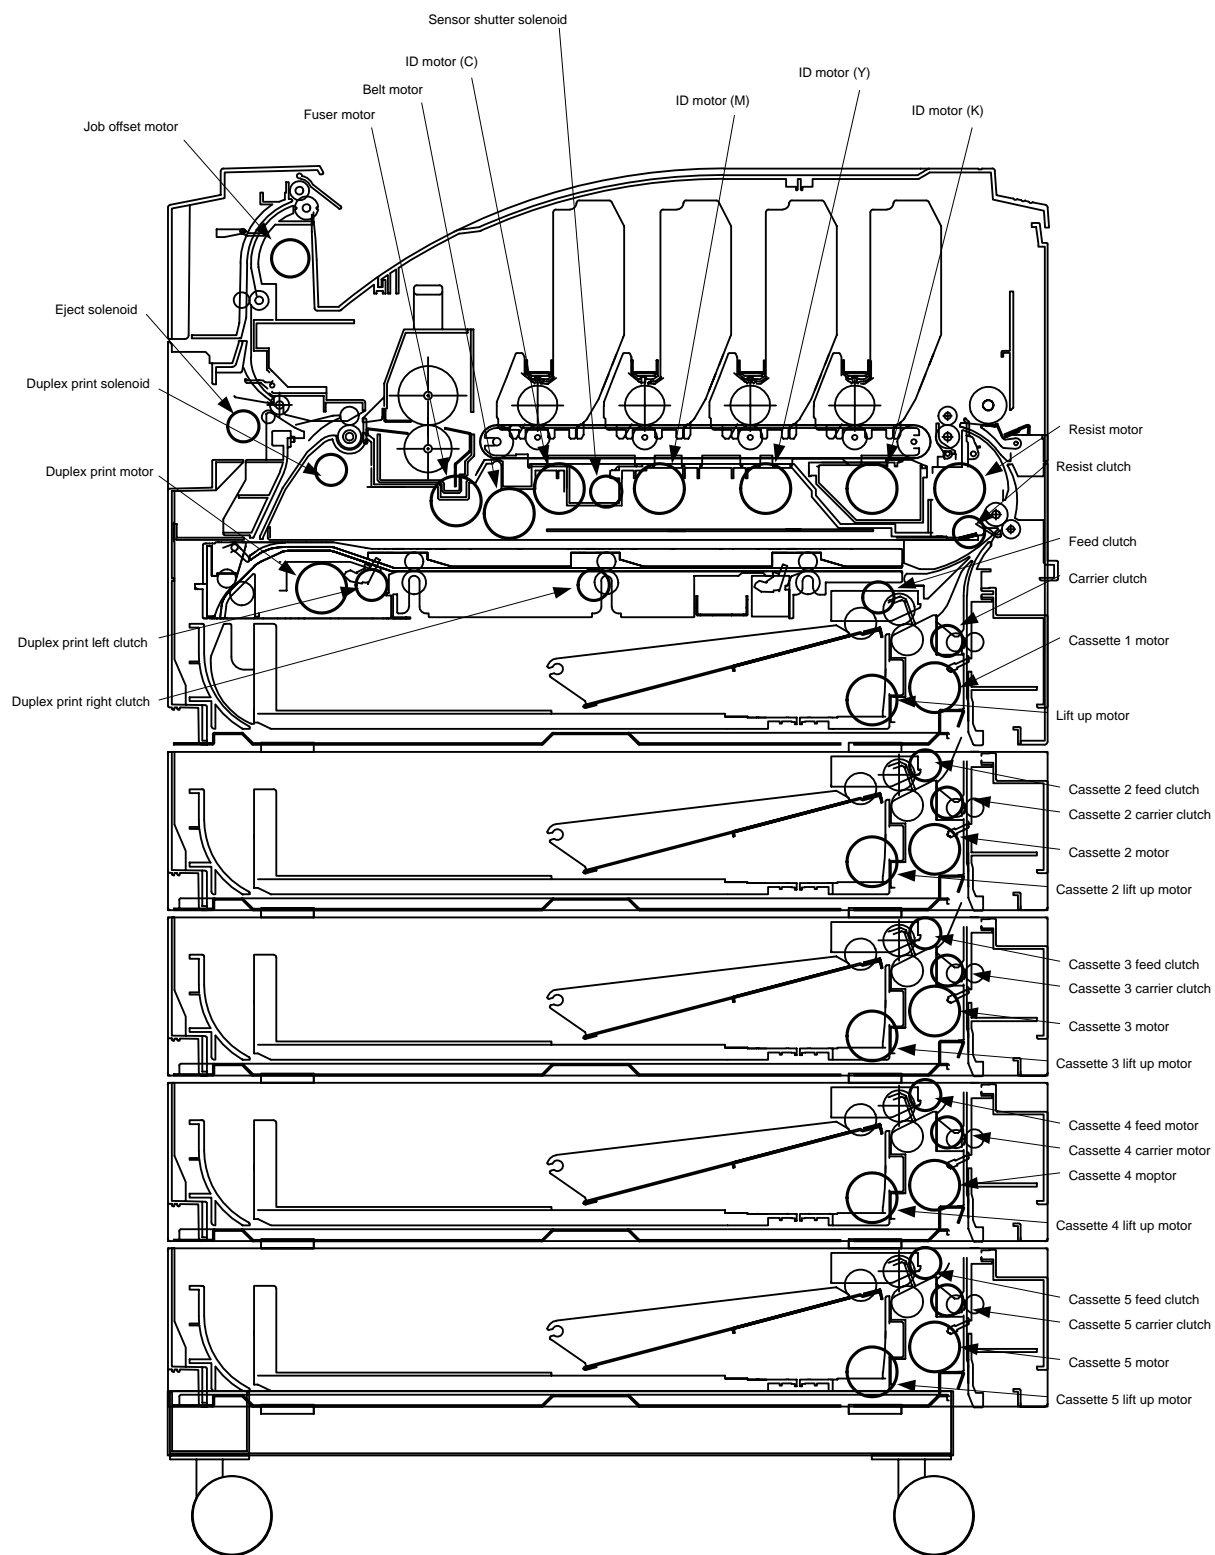

Figure 3-3
3. The test starts by pressing the ③ key. The name of the unit begins to blink and the corresponding unit drives for 10 seconds. (See Fig 3-3.)
4. A driving unit is stopped by pressing the ⑦ key. (The display of the corresponding unit is maintained.)
6. Press the ④ key to end the test. (Status returns to that described in 1.)